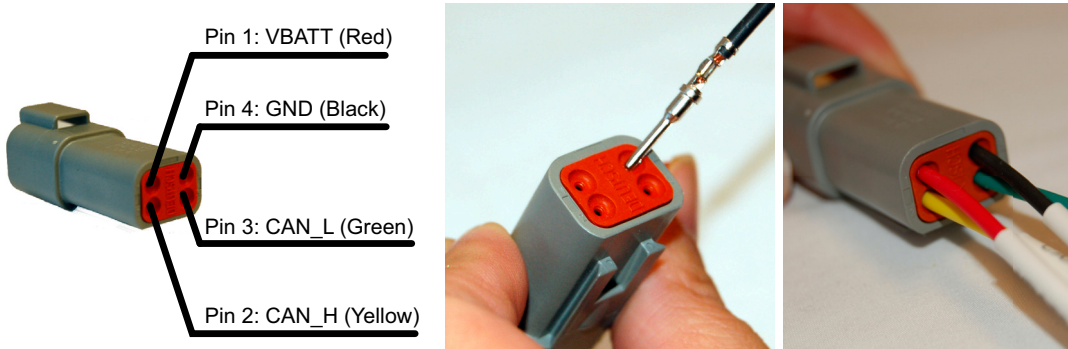

Figure 13: Insert Wires into Deutsch 4-pin Receptacle
- 7) Locate the four pins that were removed from the vehicle's Deutsch 9-pin connector in step 4 and insert them into the narrow side of the Deutsch 4-pin receptacle shown in Figure 13. Ensure that pins are fully seated in the receptacle - a 'click' will be heard when done properly. Use the wire labels as reference, if applied in Step 4.